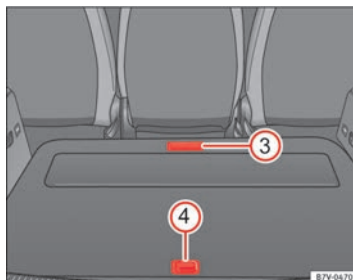

Fig. 115 Other compartments in the luggage compartment floor
Open the front compartment ⇒ Fig. 115 ③:	▷ Pull the front of the luggage compartment floor back using the handle.